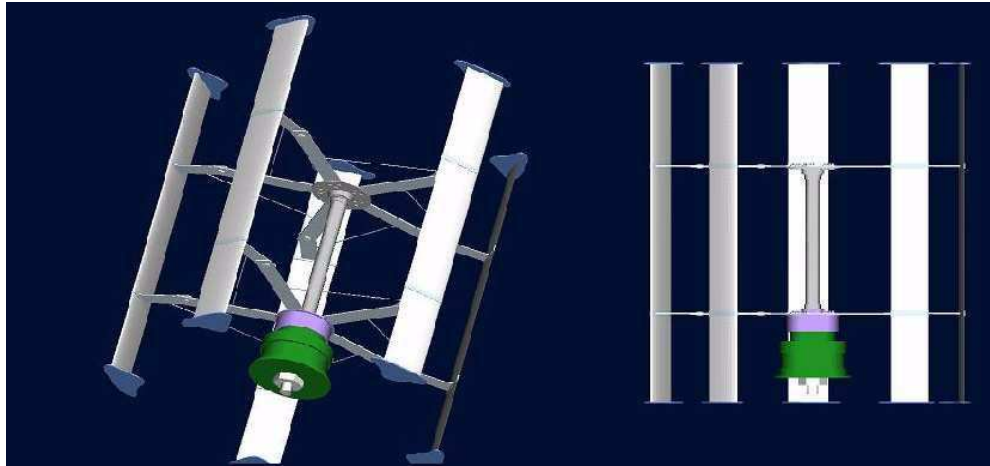

Fig 6
Step 5: Install retaining arm to the upper flange and brake hub and fasten with bolts, nuts, gaskets and spring gaskets. Then install the spring and the tensioner. When the spring is extended, turn the tensioner around it 5 times as shown in Figure 6.